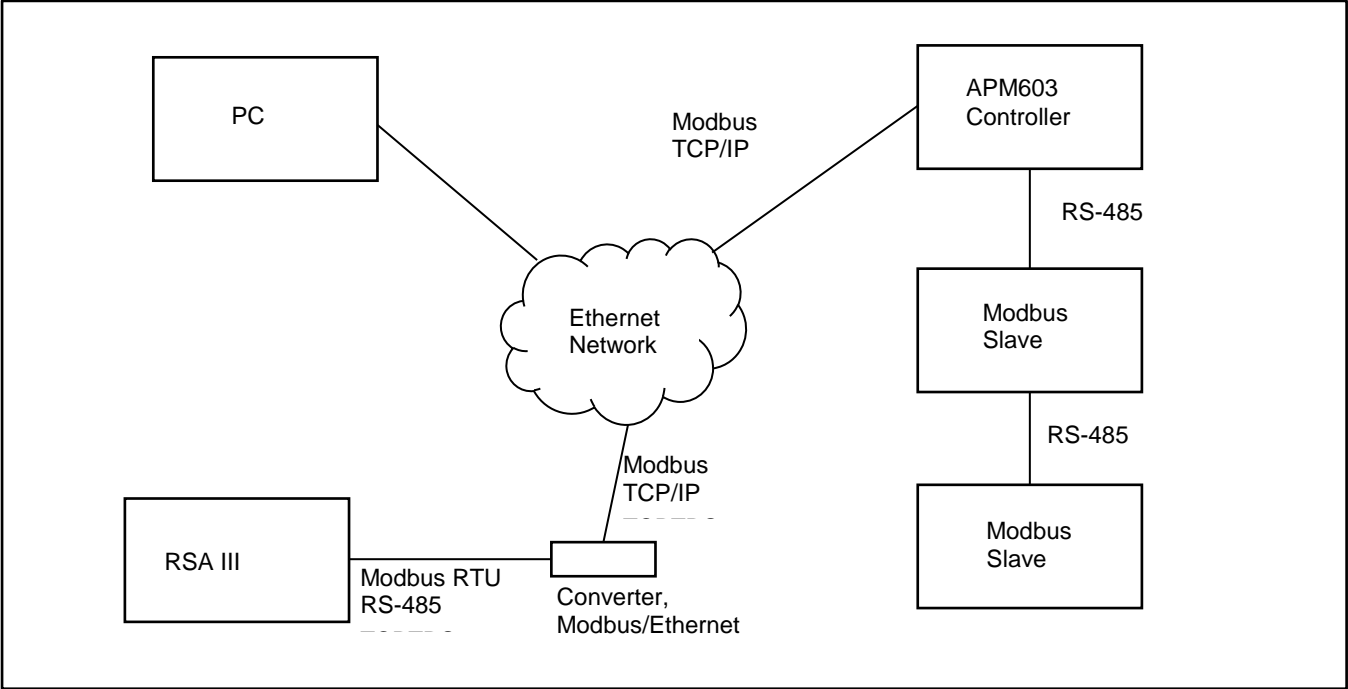

Figure 6 Ethernet Network Connection Example
- Connects directly to an Ethernet network. See Figure 6 for an example of a possible Ethernet network configuration.